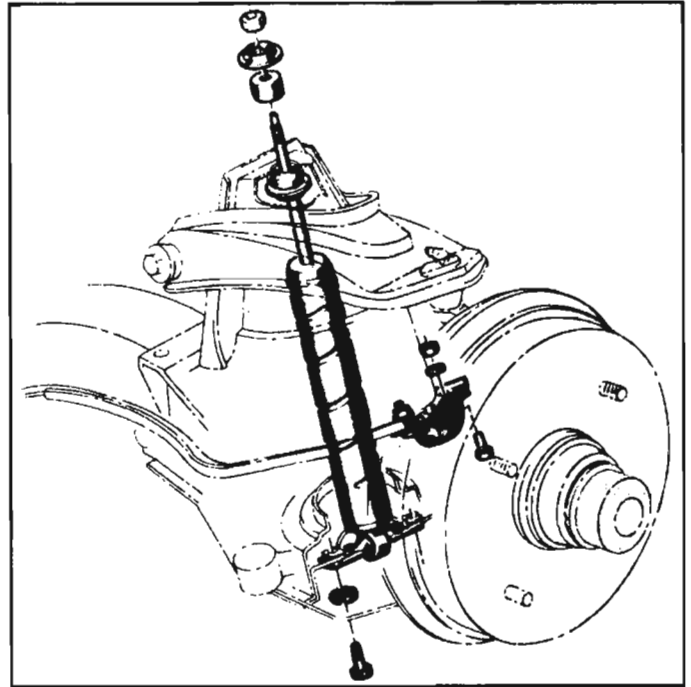

Fig. 3-9—Front Shock Absorber Installation
2. Hold shock absorber upper stem on flat section and remove upper attaching nut, cup washer and grommet (fig. 3-9).
3. Install both lower attaching lockwashers and bolts (fig. 3-9).